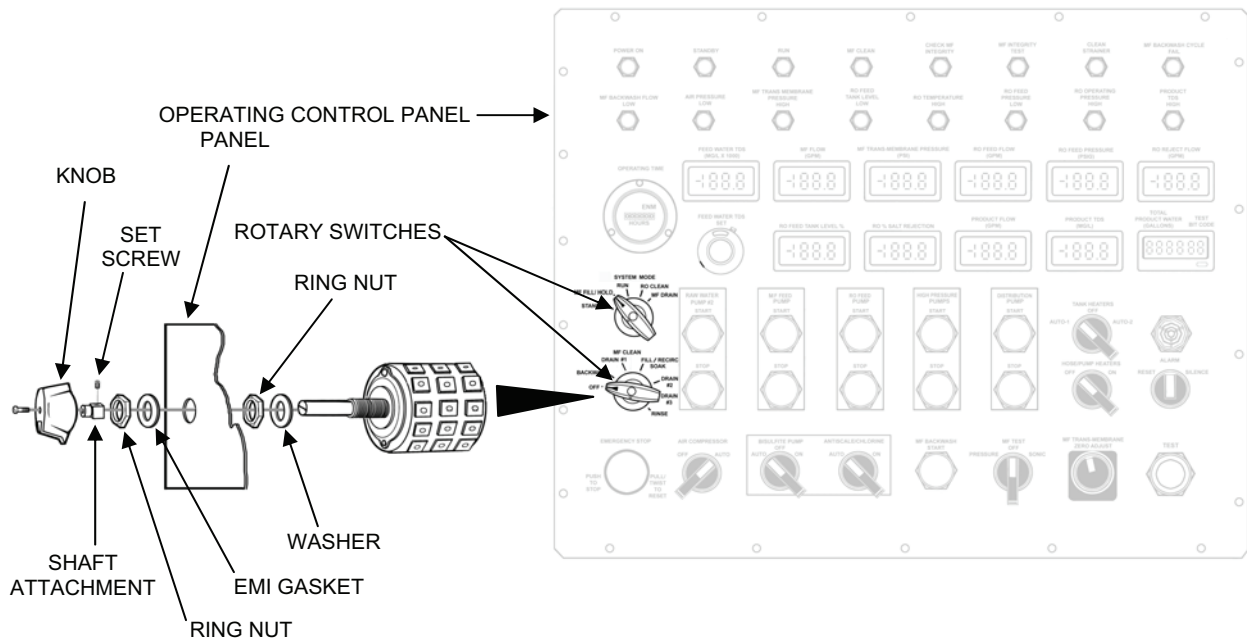

Figure 8. Rotary Switch Assembly Replacement.
1. Remove a rotary switch as follows (see Figure 8):